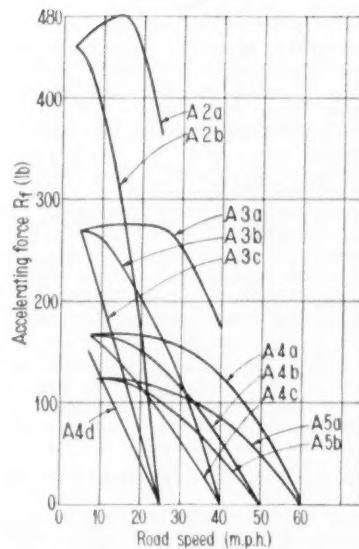

Fig. 7. Accelerating force in various cases
Fig. 7 shows the variation in accelerating force with road speed in the different gears and with different throttle settings. In each gear with the maximum torque settings (A2a, A3a, etc.) the accelerating force initially tends to increase with increase in road speed, whereas with the smaller throttle openings (A2b, A3c, etc.) the accelerating force continually decreases.
The first three columns of Table I show, for 4th gear and maximum torque conditions, the values of tractive effort and tractive resistance at road speeds between 7·2 and 60 m.p.h., column 4 indicating the equivalent engine speeds. Column 5 gives the values of  $R_f$ , the accelerating force, calculated from equation (6). The fuel consumption at each particular road speed is given in column 6. The change in speed (ft/sec) is tabulated in column 7 and the average accelerating force available during these speed changes is given in column 8 (obtained from Fig. 7). Using equation (4), with the